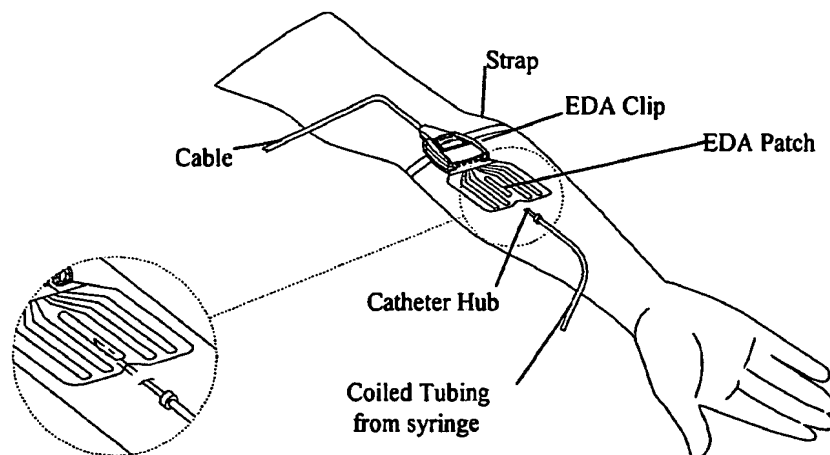
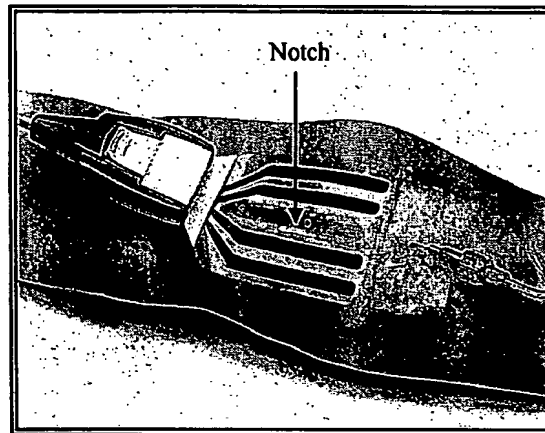

Figure 5.5 Applying Extravasation Detection Patch to Patient
Figure 5.6 Arm with proper placement of EDA patch
9. Carefully place the patch on the patient's skin adjacent to the catheter Luer connection. Position the patch such that its center is located over the distal end of the catheter. **Do not cover the catheter entry point with the patch.** The EDA patch's notch should surround the catheter, but not impede it in any way. There must not be any tape under the patch, or it may not work correctly (Figure 5.5 and Figure 5.6)